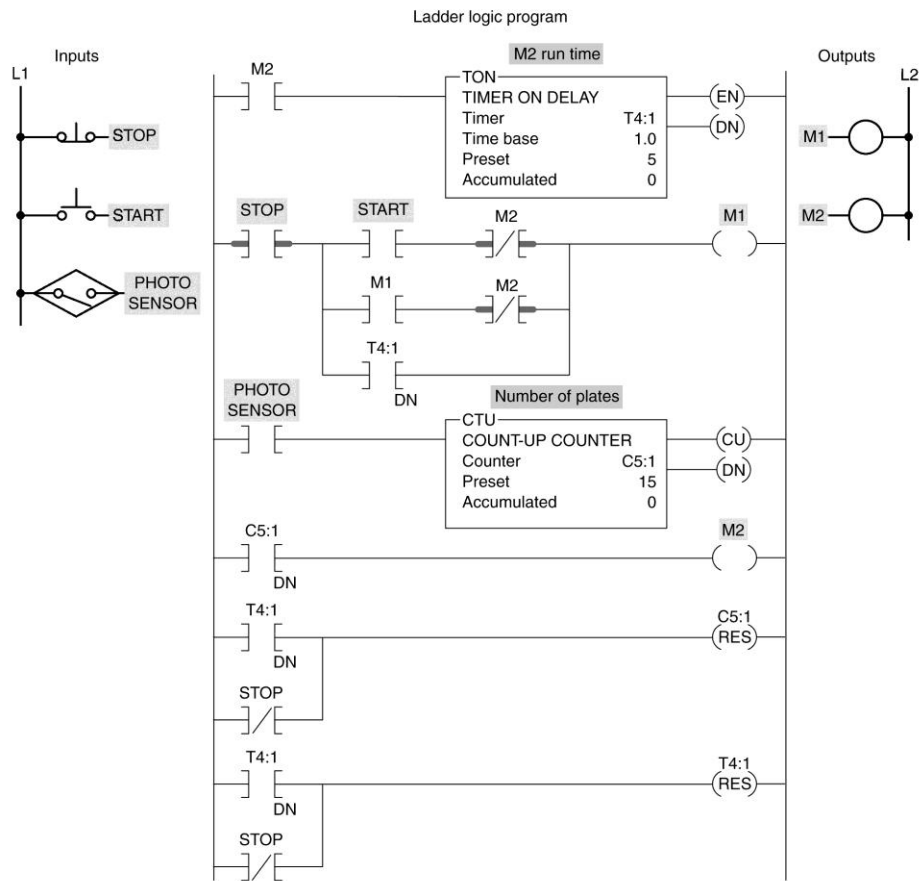

Figure 8-17 Automatic stacking program for assignment 11.
11) The automatic stacking program shown in Figure 8-17 is described in the text. Prepare an I/O connection diagram and ladder logic program for the application. Use addresses that apply to your PLC. Enter the program into the PLC, and prove its operation.